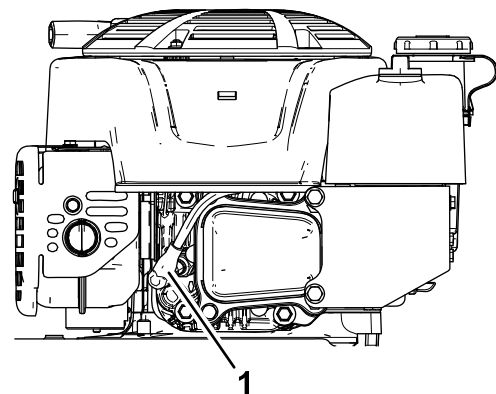

Figure 28
- Disconnect the spark-plug wire from the spark plug (Figure 28).